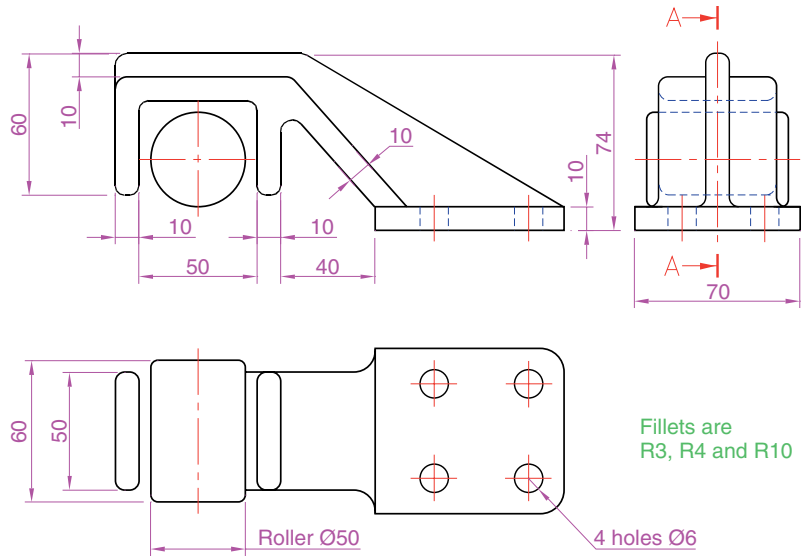

Fig. 8.21 Exercise 2
2. Construct the three-view orthographic projection in Fig. 8.21 to the given dimensions with the front view as the sectional view **A-A**.